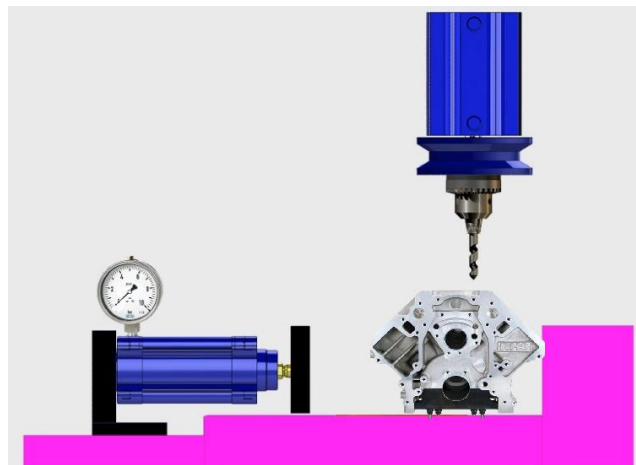

Figure 5
- ii) In a certain automotive assembly operation hole has to be machine in a vehicle engine part. The operation as follows. while placing the engine part the contact switch is activated and produces the stating signal for the automated process. Then clamping cylinder extract and clamp the engine part and it increases the clamping force until the cylinder pressure reaches 6 bar. Then drilling cylinder begins to extract and at the begging of extraction drilling motor also starts. Drilling cylinder extract until it reaches the cylinder front end reed switch. Then it backwards and when it reaches to back position drilling motor switch off. Then clamping cylinder backwards and engine part can be removed. The Figure 5 shows the schematic diagram of the setup used. For this operation prepare a design and planning documentation associated with the developing of a PLC program.